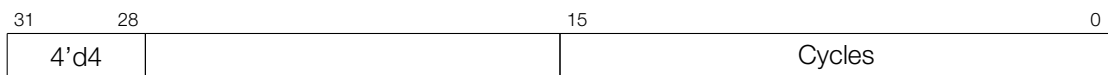

Figure 150: Instruction Type – WAIT
**Operand**    **Description** - see Figure 150